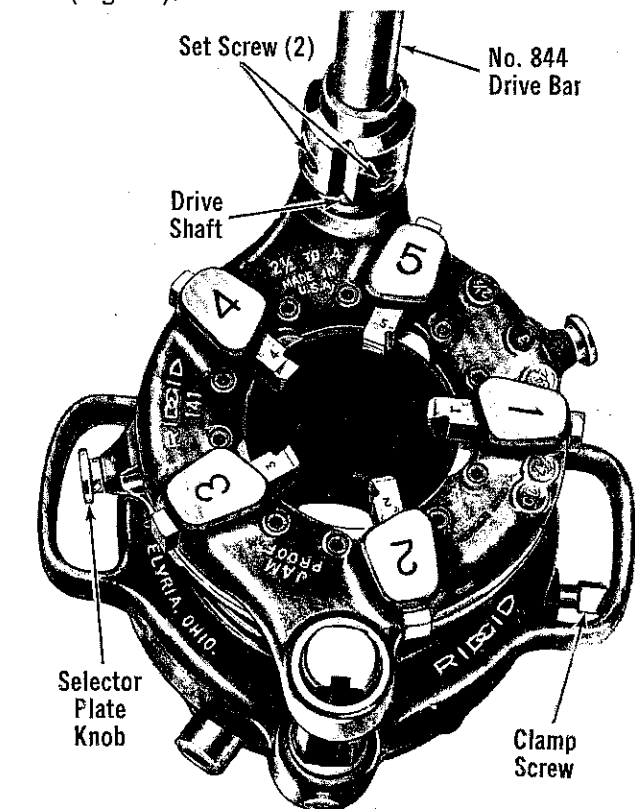

Figure 14. No. 141 Threader with No. 844 Drive Bar Installed (Nos. 161 and 4PJ Threaders Similar)
2. Place Threader on floor or workbench with Drive Shaft up. Install No. 844 Drive Bar on Threader Drive Shaft and tighten 2 Set Screws (Fig. 14).